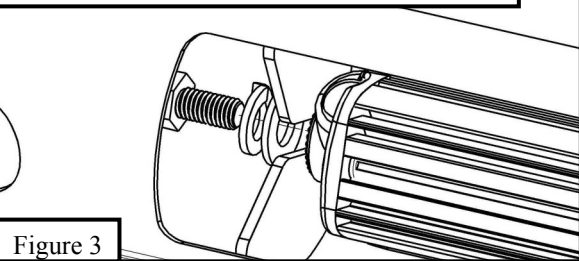

Figure 3
7. **For part number 32-3555L:** Refer to **Page 3** for wiring instructions. Loosen M8 hardware to adjust the LED light in bull bar or to remove it in order to replace it. See **Figure 3** for location of M8 hardware.